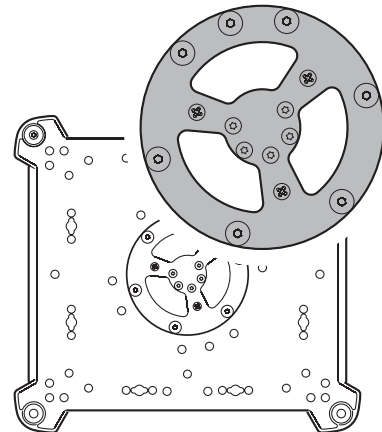

Figure 8: Safety cable attachment point
- See Figure 8. Install a safety wire that is approved as a safety attachment for the weight of the fixture by looping it through the safety attachment wheel on the bottom of the base.